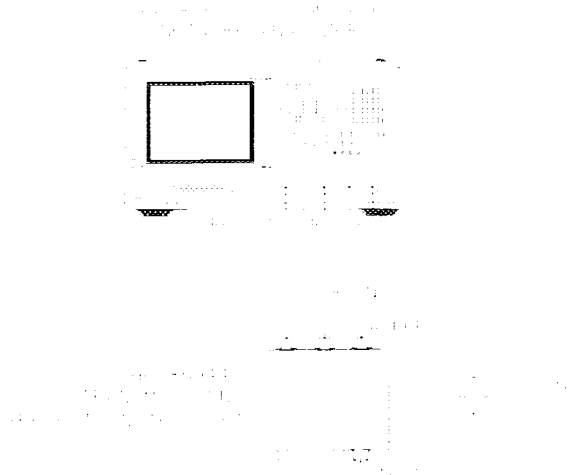

Figure 6-18. Receiver A Input Impedance Test Setup
- 13 Connect the equipment as shown in Figure 6-18.